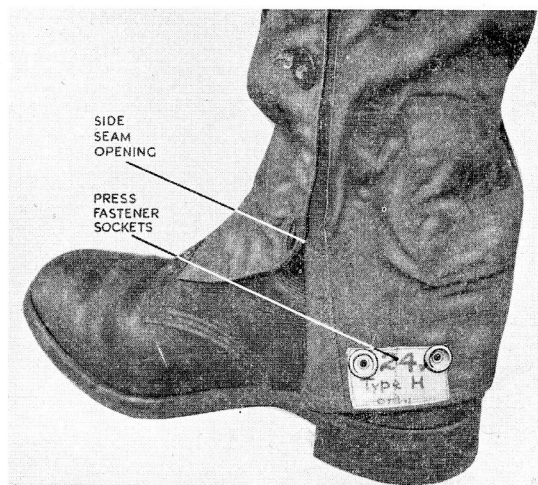

Fig. 6. Lining, lower leg
10. The bootees (*fig. 5*) have an outer layer of gabardine, to which the heating element is attached, and a lining of stockinette fleece. The ends of the heating element are riveted to press-stud fasteners on the inside of the bootee. The studs connect with corresponding sockets on the leg of the lining (*fig. 6*).